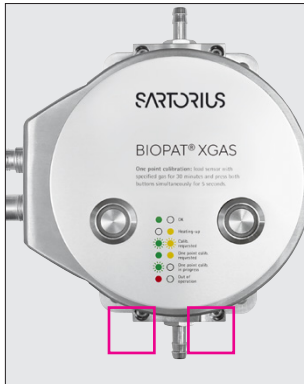
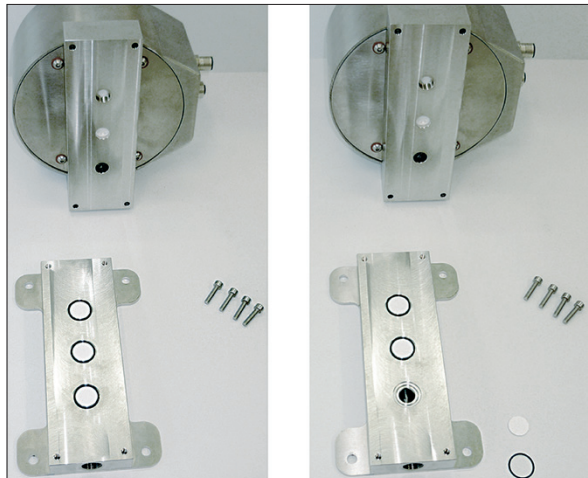

Fig. 8: Screws for attaching the sensors to the flow adapter
Fig. 9: Filter replacement
- ▶ Aerate once monthly for approx. 30 minutes with normal fresh air (20.97% by volume O₂ | 0.04% by volume CO₂) as per specification (see Data Sheet). Next, press the two keys at the same time for 5 seconds (Fig. 8).
- ▶ Unscrew the four screws visible from top (see Fig. 8). Remove the base plate and place it to the side so that the filters are visible (Fig. 9)